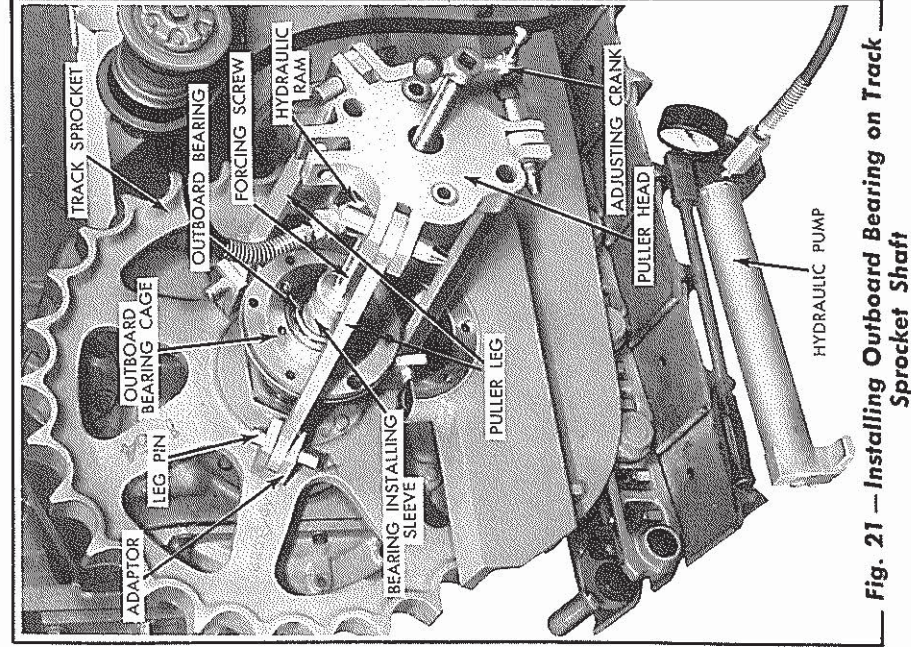

Fig. 21 — Installing Outboard Bearing on Track Sprocket Shaft
the track sprocket shaft using special tools similar to the ones shown in Fig. 21. **NOTE:** The bearing installing sleeve shown in Fig. 21 is machined from a piece of steel tubing to the following dimensions: I.D. 2-1/16", O.D. 2 1/2", length 2 1/2". Press the outboard bearing cage and bearing assembly onto the sprocket shaft to a position allowing .050" to .060" clearance between the two (2) outer oil seal rings. **IMPORTANT: Do not allow the two (2) seal rings to contact, as this will cause a drag between the seal rings, thus a false reading will be obtained when checking the adjustment of the outboard bearing.**